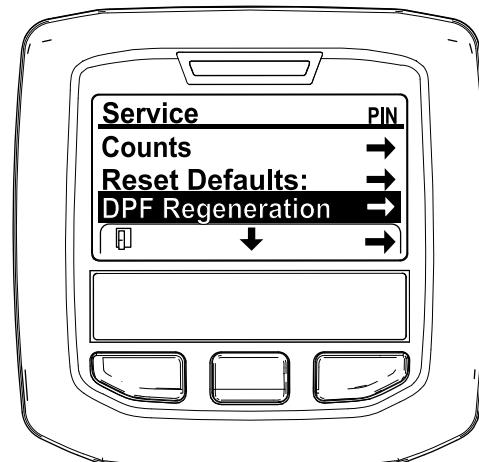

Figure 30
- In the SERVICE MENU, press the middle button until the DPF REGENERATION options displays, and press the right button to select the DPF REGENERATION option (Figure 30).